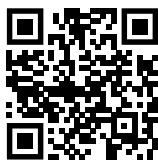

Fig. 107
- Aprire la Liebherr SmartMonitoring Dashboard. (vedere Fig. 107)